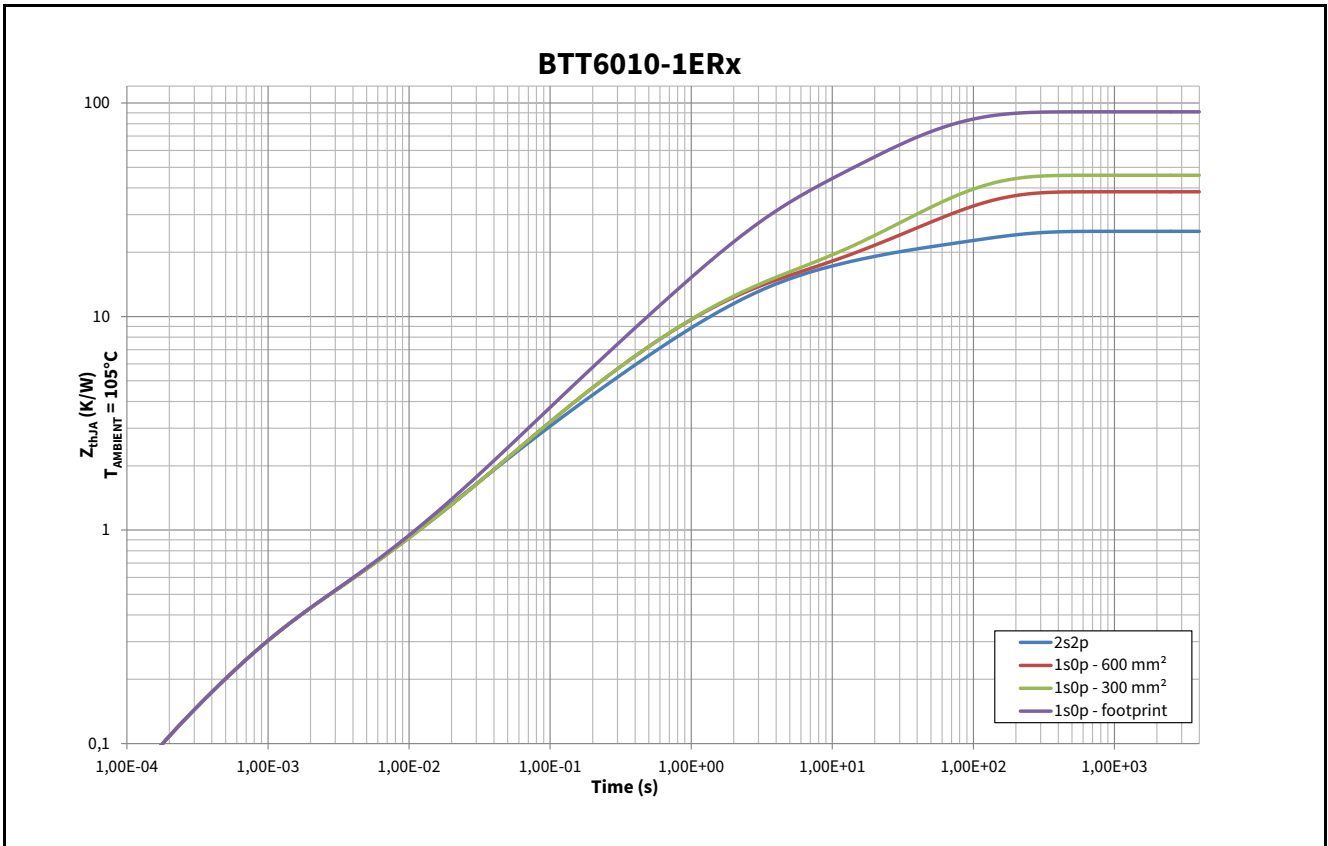

**Figure 4 2s2p PCB Cross Section**
- 2) Specified  $R_{thJA}$  value is according to JEDEC JESD51-2,-5,-7 at natural convection on FR4 2s2p board with 1 W total power dissipation at  $T_A = 105^\circ\text{C}$ ; The product (chip + package) was simulated on a 76.4 x 114.3 x 1.5 mm board with 2 inner copper layers (2 x 70  $\mu\text{m}$  Cu, 2 x 35  $\mu\text{m}$  Cu). Where applicable, a thermal via array under the exposed pad contacts the first inner copper layer. Please refer to Figure 4.